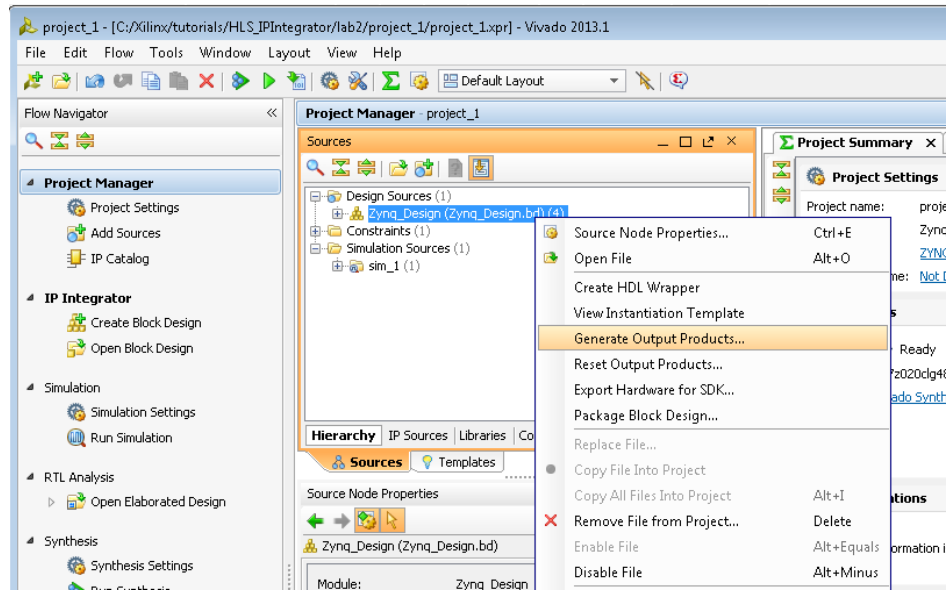

Figure 236: Wrapper Generation
2. In the Sources browser in the main workspace pane, a Block Diagram object named Zynq_Design is at the top of the Design Sources tree view (Figure 236). Right-click this object and select **Generate Output Products**.